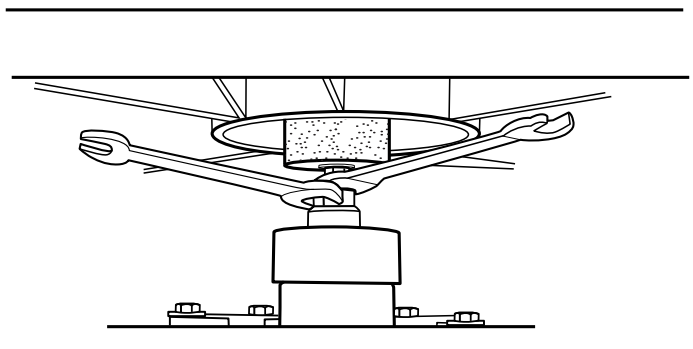

FIGURE 4
- Use a second 17 mm wrench, placed over the retaining nut on the spindle (see Figure 4), to tighten the spindle no more than another 1/2 turn.